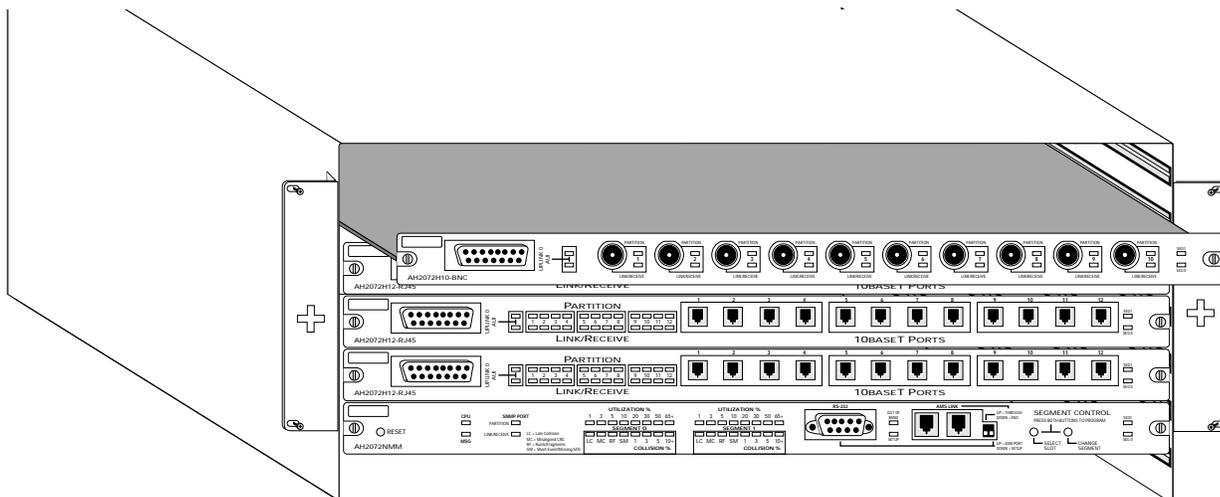

Figure 2 Installing the BNC Module
- 3** Align the module to the inside edges of the card guides to any available slot in the chassis. Gently slide the module in until you can begin tightening the screws. See Figure 2.